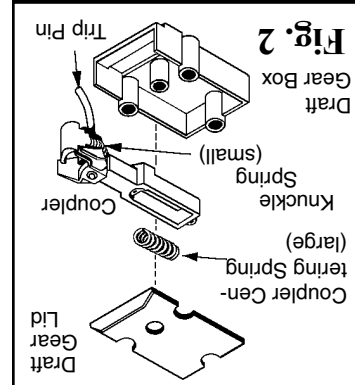

Fig. 2
4. Next, place the draft gear lid over the assembly as shown in Fig. 2. Test the centering action of the coupler by moving it to either side a number of times to be sure it snaps back to center consistently. 5. Coupler knuckle Springs are pre-installed. If one should come out during
2. It should be mentioned, in the order described and as shown in Fig. 2. coupler in the order described necessary to separate the tiny springs when they have become coiled together. There are several methods of separating these. One way is to shake or roll the springs around the flat surface of a small container, usually this is sufficient to cause them to become uncoiled from each other. One can also lay the flat side of a steel rule lightly upon the entwined springs, cautiously rolling the springs back and forth to work them apart. A third approach is to insert a knife blade lengthwise between two coiled springs and gently work the blade down between to separate them. With any of these methods, avoid undue pressure that is liable to distort the springs.